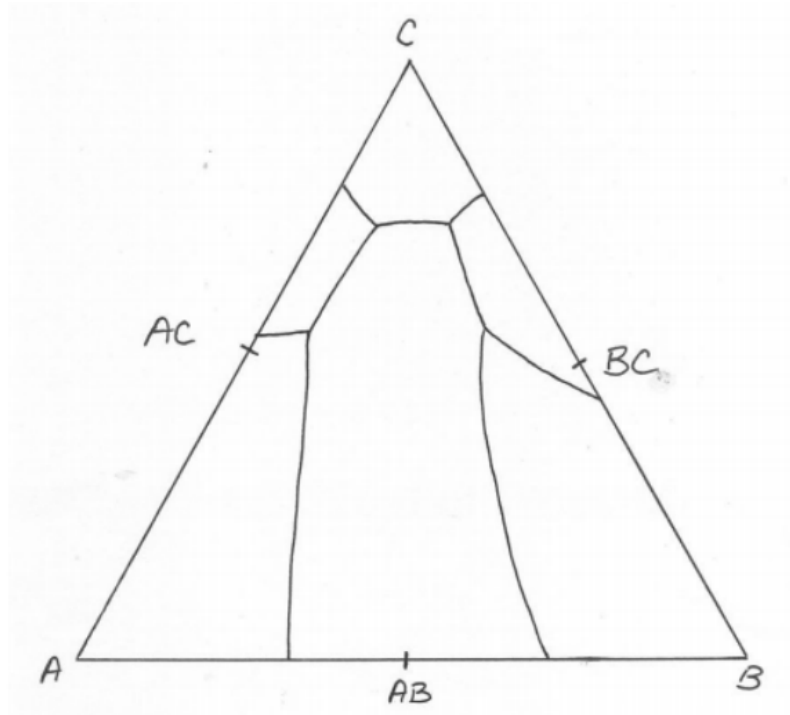

Figure .6: Liquidus projection diagram.
11. On the liquidus projection diagram for the hypothetical system A-B-C shown in Figure .6), complete the following: